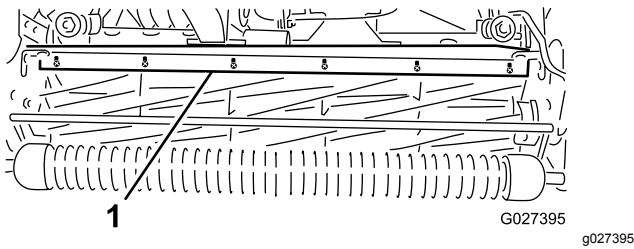

Figure 59
1. Loosen the screws that secure the top bar (Figure 59) to the cutting unit.